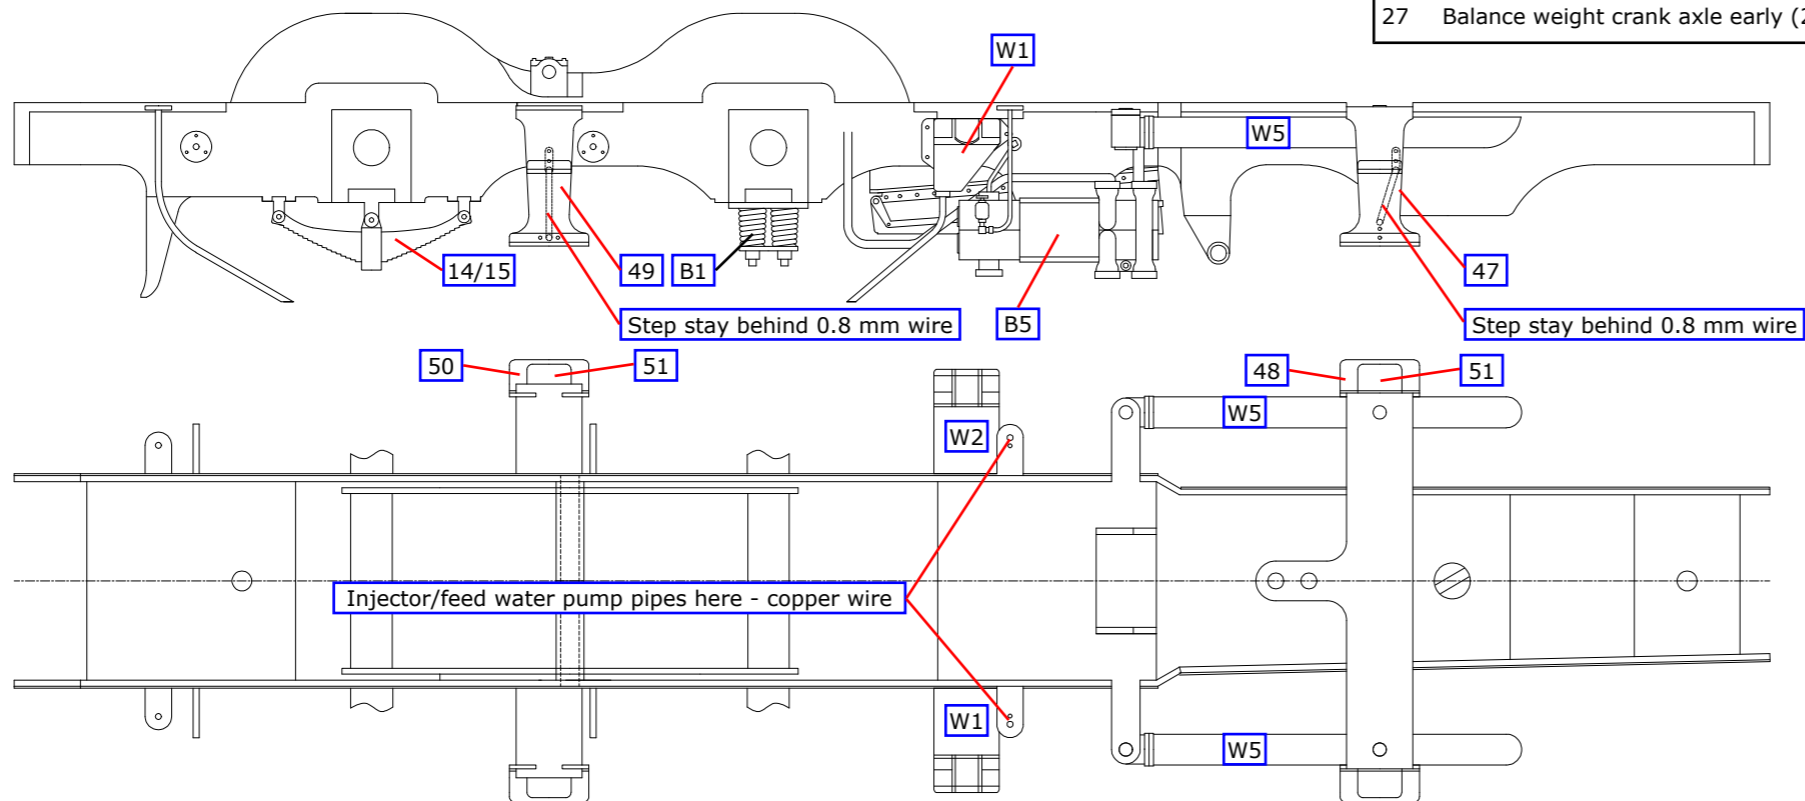

Fig 8. Frame Detailing of Long Frame with Duplex Feed Pumps. Front Steps. Front Sandboxes above Footplate
Steps. Assemble the steps as shown in the drawing, the front steps are shown in Fig 8. The front steps, if required, fit into slots in the front step back (49). These slots take account of the different width across frames; for wide frames use the inner slots and vice versa. Fold the front step back to shape and attach the upper and lower steps (51 & 50) to the back. The 0.8 mm wire step stay should be curved to provide clearance on the coupling rods. The front steps can be soldered into place in the slot in the main frames.